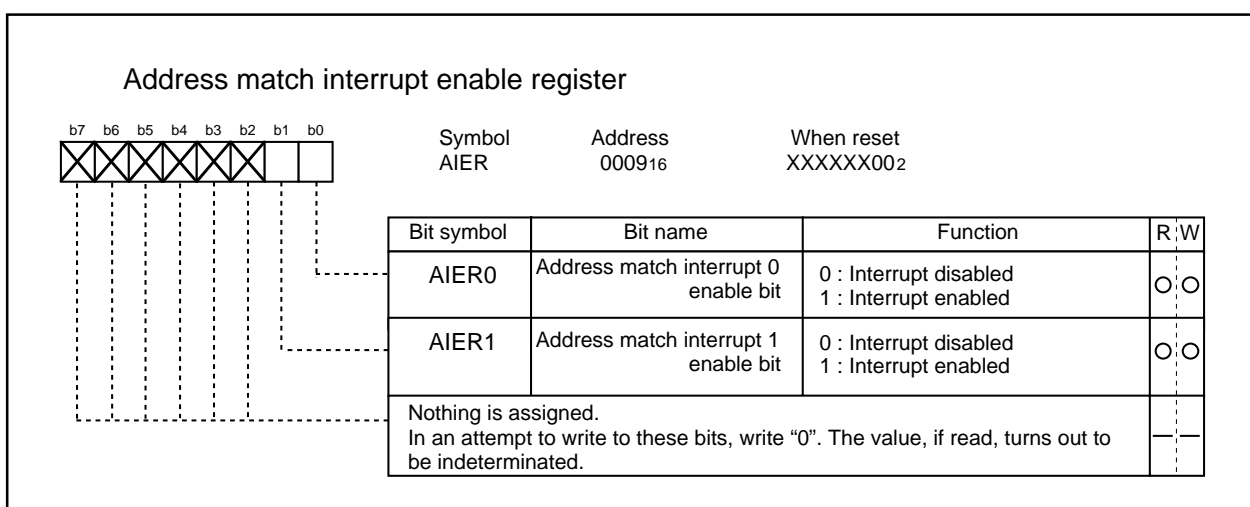

Figure 2.7.12 Address match interrupt enable register
An address match interrupt is generated when the address match interrupt address register contents match the program counter value. Two address match interrupts can be set, each of which can be enabled and disabled by an address match interrupt enable bit. Address match interrupts are not affected by the interrupt enable flag (I flag) and processor interrupt priority level (IPL). The value of the program counter (PC) for an address match interrupt varies depending on the instruction being executed. Figures 2.7.12 and 2.7.13 show the address match interrupt-related registers.